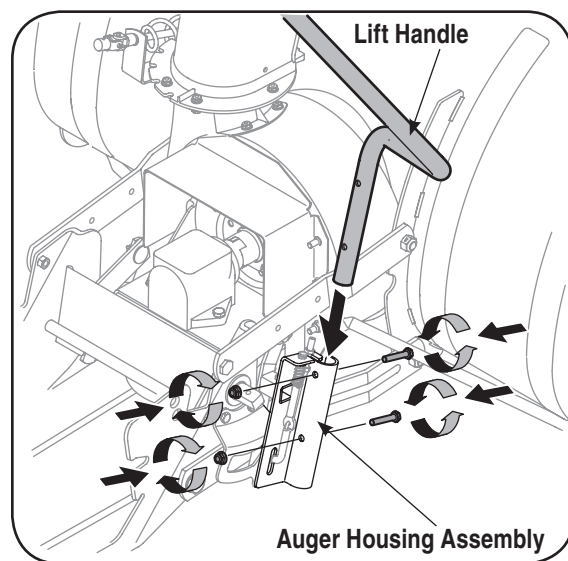

Figure 26
1. Attach the lift handle to the lift bracket on the right side of the auger housing assembly with the two hex screws and two flange nuts provided. See Figure 26.